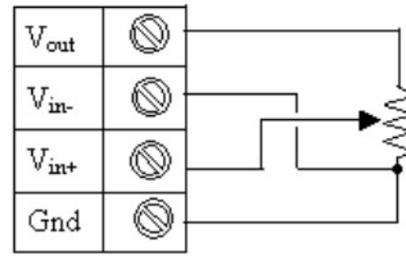

Fig 3.19 - Potentiometer Measurement
rotation pot). One can scale this 0 to 1 data to other units using the Channel Mapping dialog. We recommend 5K to 25K ohm pots since lower values may overload the Vout driver and higher values may incur excess noise. Figure 3.19 shows the Vin- terminal being wired to the sensor, yet a jumper wire between Vin- and Gnd will work as well.
7. Wire your potentiometer per figure 3.19, and refer to the steps at the beginning of this chapter for more information on how to set up your sensor.5,10